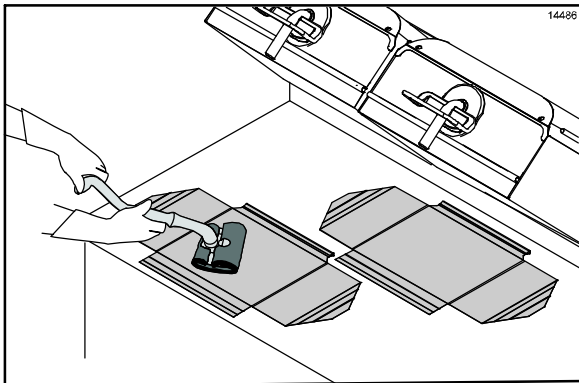

Figure 97
38. Place the upper platen release sheets flat on the lower grill surface. Gently clean both sides of the sheets with the Kay Grill Cleaning Pad Holder. (See Figure 97.)